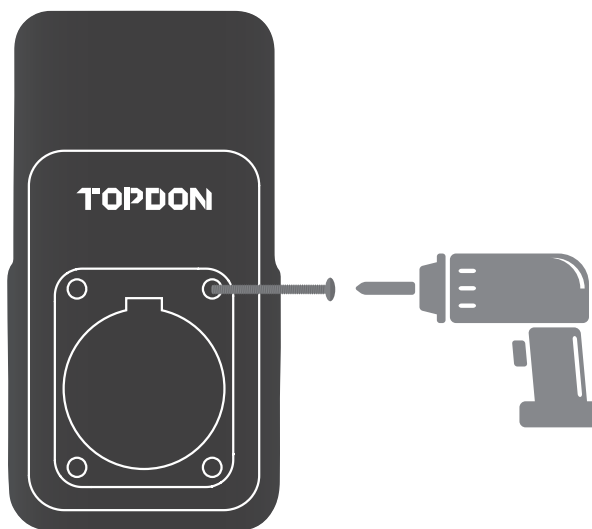

Fig. 5.8.4
5. Fix the charging dock on the wall with the expansion screw in the package. (See Fig. 5.8.4)